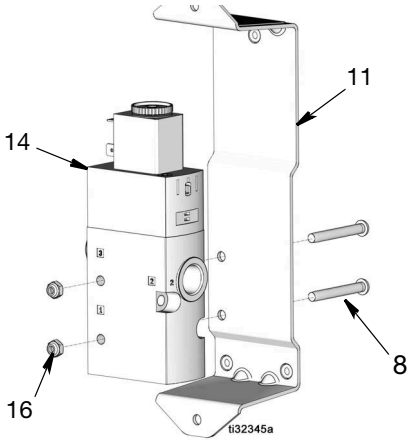

FIG. 27
6. Remove two screws (8) and nuts (16) holding solenoid valve (14) to bracket (11) and remove solenoid valve from bracket (FIG. 27).